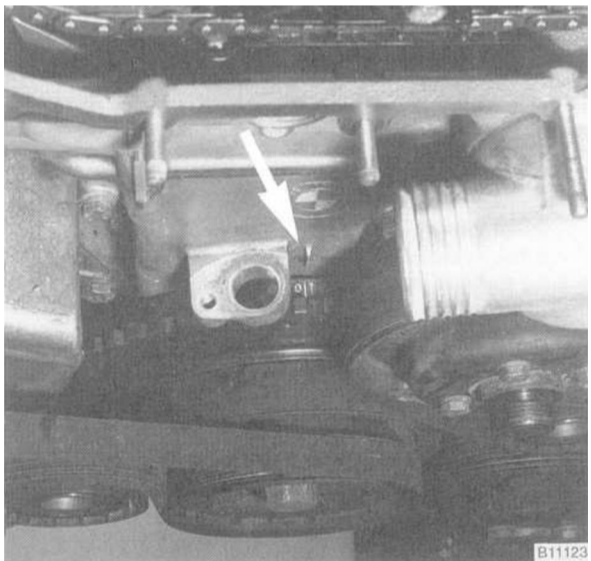

Fig. 9. 0/T (0° TDC) mark on vibration damper aligned with boss on timing chain cover (arrow)
15. Set the engine to TDC by aligning the "0/T" mark (0°TDC) on the front vibration damper with the cast boss on the lower timing chain cover. See Fig. 9.